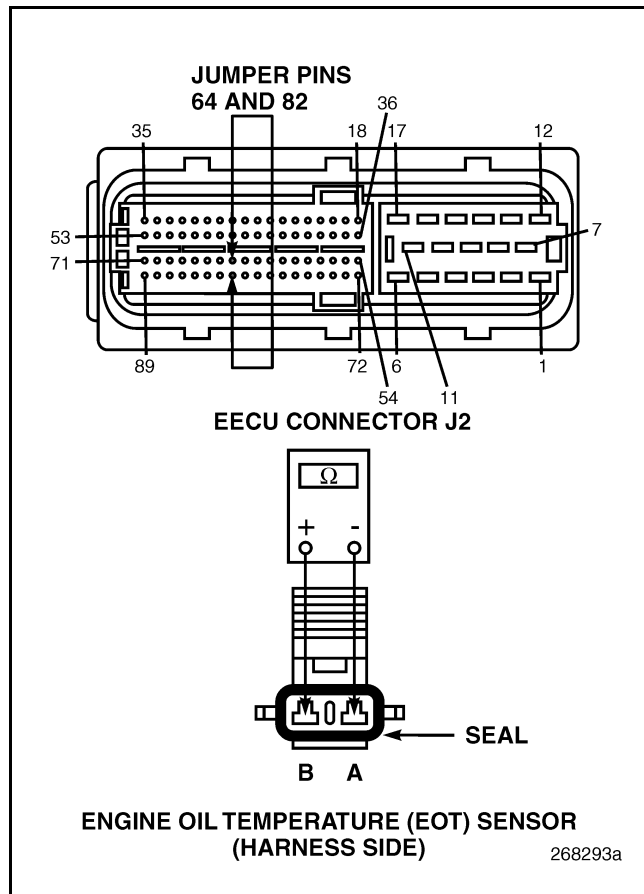

Figure 280
4. Connect a jumper between EECU harness connector J2 pins 64 and 82 (see Figure 280).